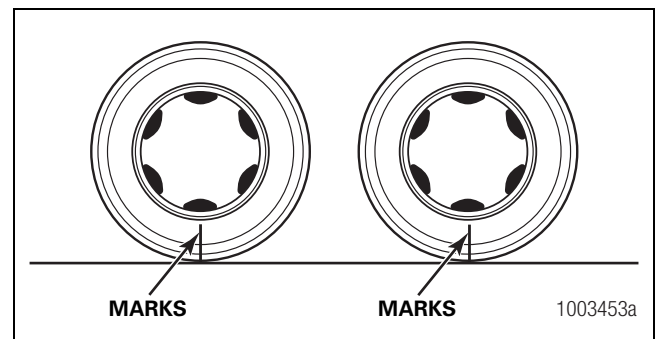

Figure 4.15
5. Mark the forward and rear tires at identical relative positions. Figure 4.15.